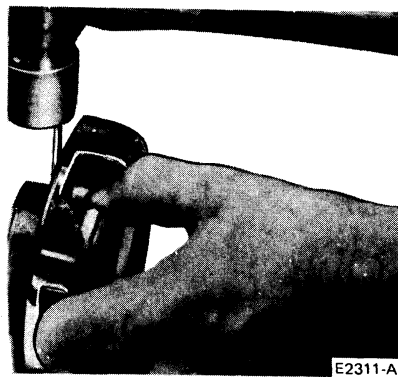

FIG. 19 Cam Lock Pin Installation
10. Assemble the cam lock pin through the groove of the cam and holes in the actuating knob. Be sure ends of the pin are flush with the outside diameter of the cam (Fig. 19).